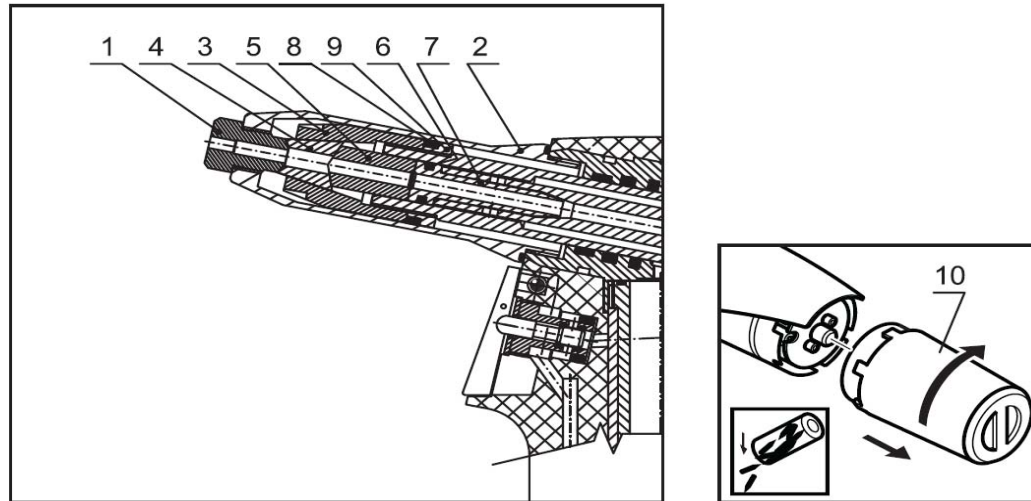
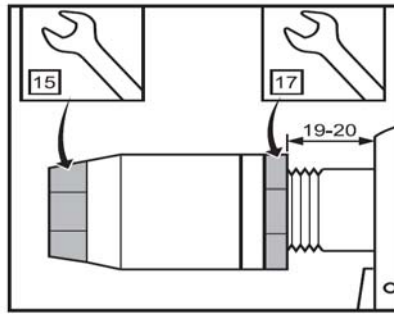

Fig. 2
Fig. 3
Disconnect the tool from the source of compressed air, unscrew the front nozzle /fig.2 - pos.9/ by means of a spanner no. 23, set the spanner no.17(15) onto the clamping sleeve /fig.2 - pos.3/, set the spanner no. 17 on the backnut /fig.2 - pos.6/ and loosen. Unscrew the clamping sleeve, replace the jaws /fig.2 - pos.2/ and conduit-suction complet /fig.2 - pos.8/. All used threads are clockwise. Clean the dismantled parts thoroughly and check them visually, especially the following:
- 1) Jaws /fig.2 – pos.2/ - if worn or damaged, replace it, if dirty, clean it with a wire brush.
- 2) Nose-piece /fig.2 – pos.1/ - for wear of functional surfaces of the taper.
- 3) Conduit-suction complet /fig.2 - pos.8/ - inspect parts of the assembly, jaw pusher /fig.2 - pos.804/, spring /fig.2 - pos.803/, washer of spring /fig.2 - pos.803/, O - ring /fig.2 - pos.802/ and conduit-suction /fig.2 - pos.801/ - if damaged or worn, replace it with a new one.
- 4) Front nozzle /fig.2 - pos.9/ - check for damage of the internal surface (\varnothing 20) .
- 5) Scraper ring /fig.2 - pos.5/ - if damaged or worn, replace it with a new one.
Mount the parts (see par. disassembly) in a reverse order. On the outer surface of the jaws /fig.2 – pos.2/ apply a drop of lubricating oil (we recommend hydraulic oil HYSPIIN AWHM 32 CASTROL), apply thin layer of plastic lubricant MOGUL LV 2-3 to the conduit-suction complete /fig.2 – pos.8/. Basic set-up of the jaws is performed as in fig.3.